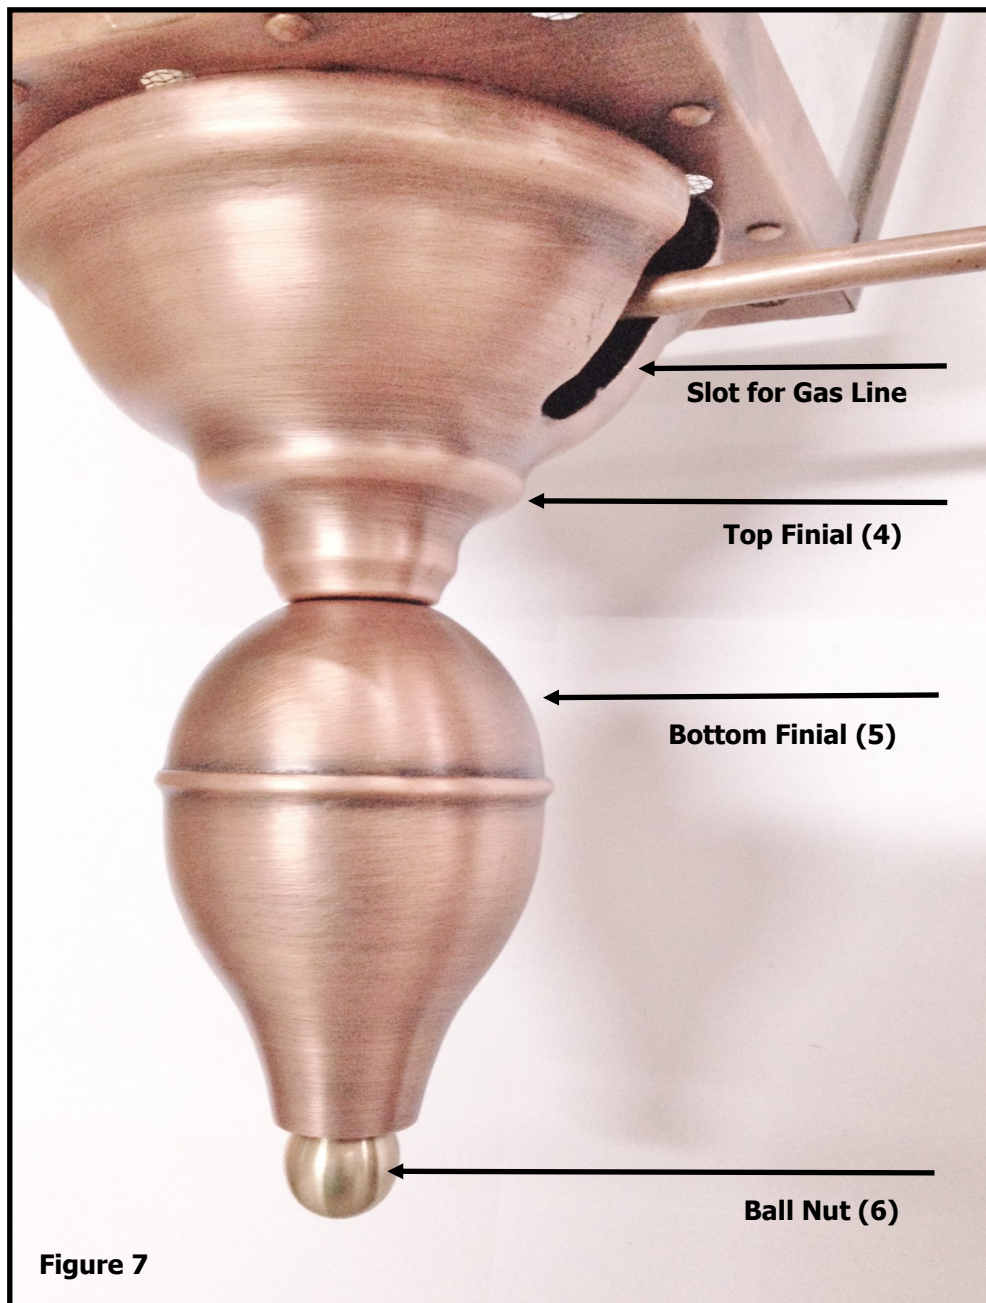

Figure 7
4. Slide the copper finial (Part No. 4) onto the brass nipple. Make sure the slot in the finial fits over the gas line as shown in **Figure 7**.